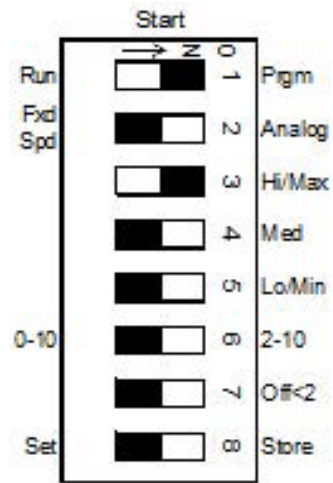

FIGURE 16 - HIGH SPEED ADJUST
1. **High Speed Setting Adjust:** Set Configuration Switch to HIGH SPEED adjust (see *Figure 16 on page 28*). Switches to ON-OFF-ON-OFF-OFF-OFF-OFF-OFF-OFF.